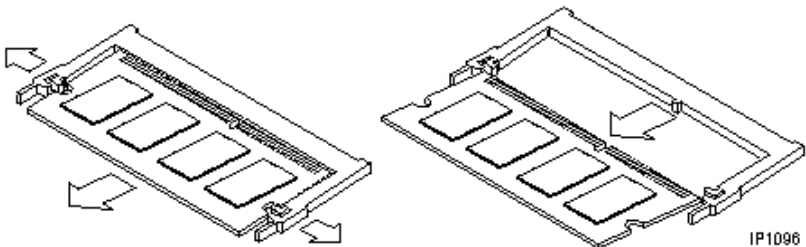

Figure 87: Memory Module Removal
- pull both spring retainer clips on either side of the module outward (see Figure 87).